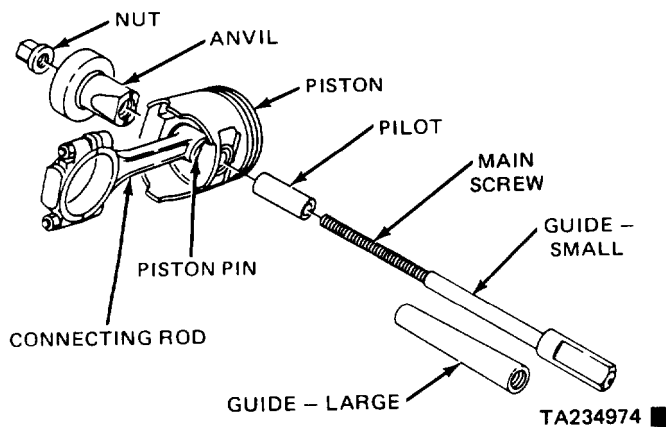

Figure 11-9. Arrangement of Tool C4158-L for Removing Piston Pin.
- (1) Install the bearing cap on the mating rod.
- (2) Remove the rings.
- (3) Arrange tool C4158-L for removal of the piston pin (figure 11-9).